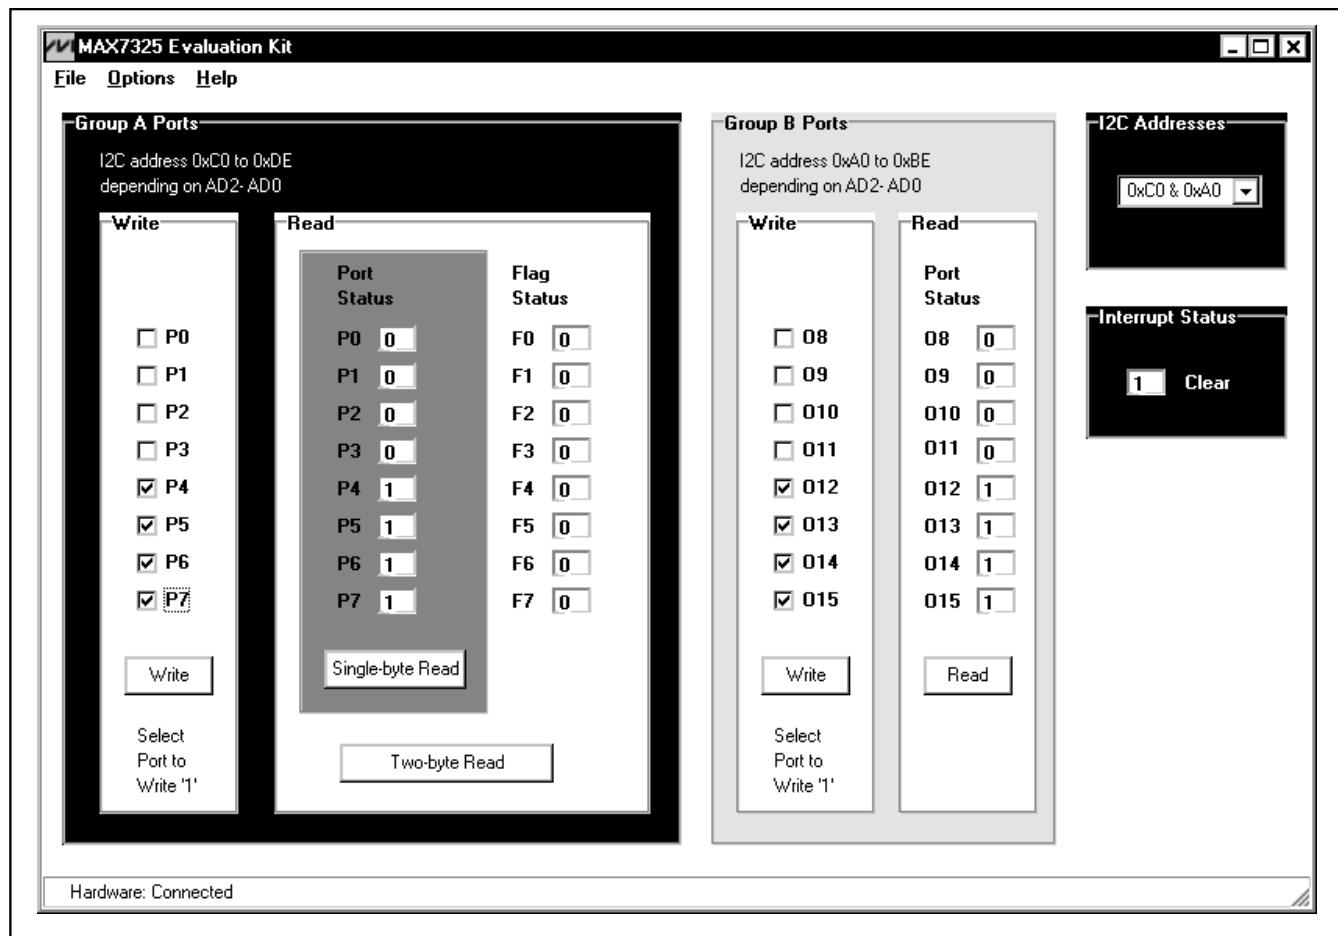

Figure 1. MAX7325 Evaluation Software Main Window
8) Start the MAX7325 EV kit software by opening its icon in the **Start** menu. The GUI main window will appear, as shown in Figure 1.
To start the MAX7325 EV kit software, double click the MAX7325 EV kit icon that is created during installation. The GUI main window appears, as shown in Figure 1.
The **Group A Ports** group box shown in Figure 1 contains the **Write** group box and the **Read** group box. The **Read** group box consists of two sections: **Port Status** and **Flag Status**.